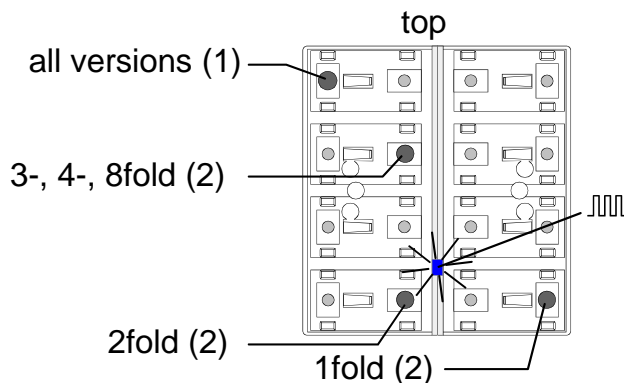

Fig. 1: Keys for activation of the programming mode
1. Activate the programming mode (cf. Fig. 1):